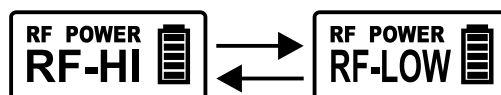

Fig. 30
(B) RF POWER Setting. Fig. 30: